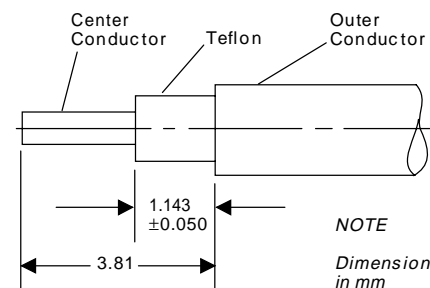

Figure 2. Preparing the Cable
- Insert the cable into position 3 of the 01- 309 fixture until the outer conductor bottoms in the hole and the Teflon dielectric is protruding from the back of the fixture. Using X-ACTO-type knife or razor blade, cut the Teflon dielectric flush with the fixture. Do not score the center conductor. After cutting, the Teflon dielectric should protrude 1.143 mm from the outer conductor as shown in Figure 2.